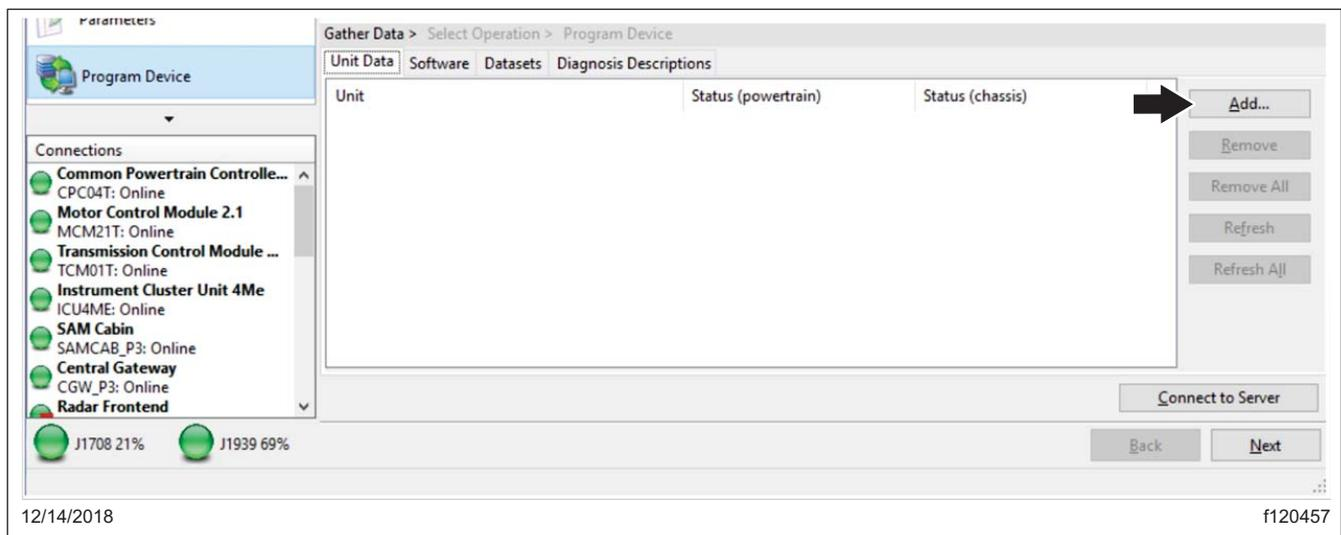

Fig. 5, Adding the VIN to Download Updated Server Data
7. Click "Add" to add a download request for the vehicle. See **Fig. 5**.